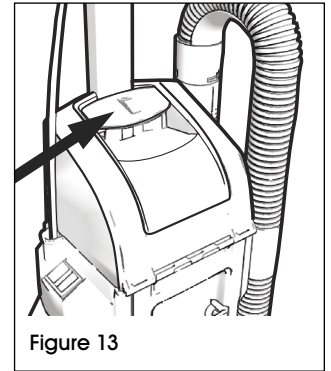

Figure 13
1. Pull up on the dust bin cover latch release and fully open the cover to expose the bag. (See Figure 13)